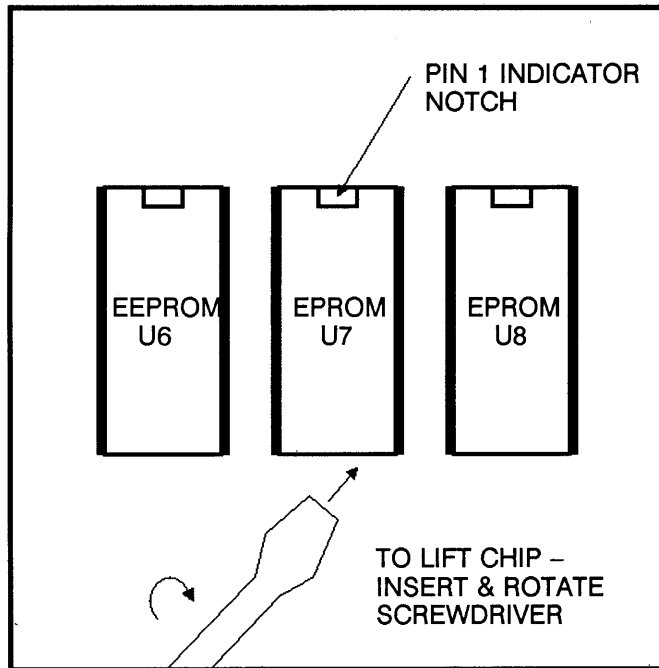

Figure E-1: Memory Chip Location
There are three memory chips, U6, U7 and U8, mounted in sockets on the CPU40 Board which define the personality of the controller. The memory chips at locations U7 and U8 (See **Figure E-1**) store the program which the CPU40 runs. Periodically the program will change to improve operation or add features. These program changes can be added to existing controllers by changing the memory chips at U7 and U8. The label on each EPROM chip has the name of the program stored within (XPRT5-TD32 A or B), the location (U7 or U8) and the revision date. The later the date, the more current the revision.
The third memory chip located at U6 (See **Figure E-1**) is an EEPROM (E Squared PROM). It stores the settings, schedules, configuration, communication parameters and sensor names entered by the user of the XPRT5 controller. Since this chip does not need power to retain the stored values, it may be moved from one XPRT5-TD32 to another XPRT5-TD32 with a compatible revision level to transfer the settings. Check the paperwork from the new memory chips for compatibility eligibility. This feature is also very useful when starting up a controller lacking communications. See **Section C, System Start-Up Procedure**.
- 1) Place the chip over the socket with the Pin 1 Indicator notch (see **Figure E-1**) at the top.